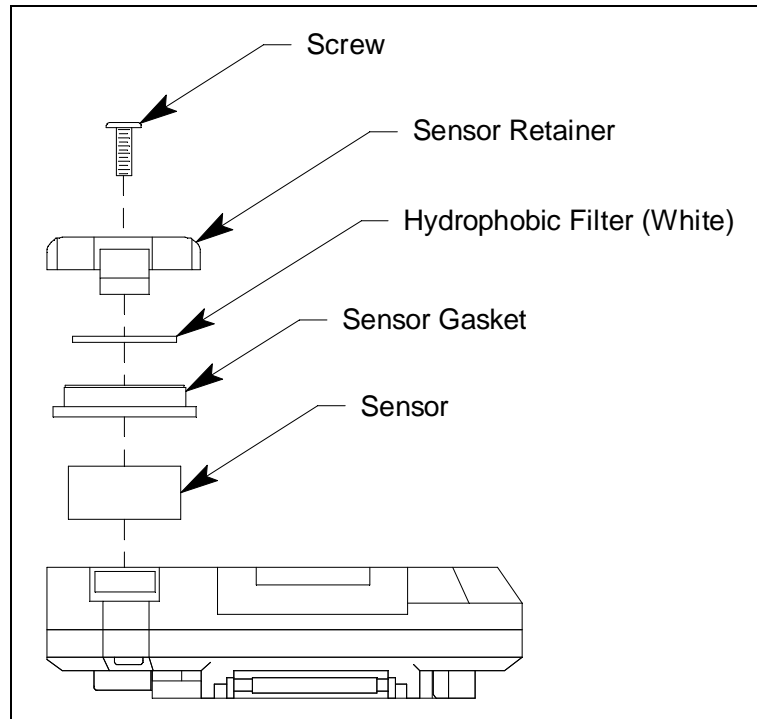

Figure 12: Replacing the Sensor
7. Reinstall the sensor gasket. Be sure to orient it as shown in Figure 12 above.